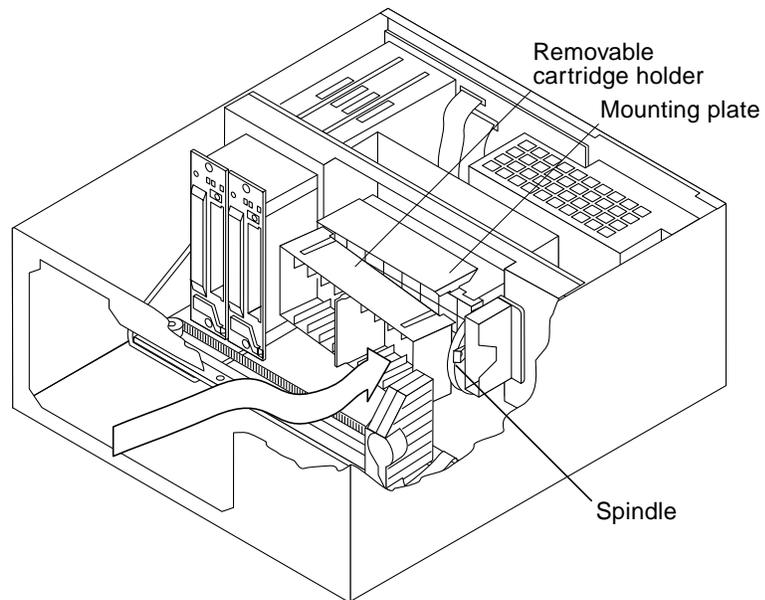

FIGURE 2-7 Installing the Removable Cartridge Holders
1. Locate the roller on the top end of the holder's mounting plate on the interior back of the tape library (FIGURE 2-7).